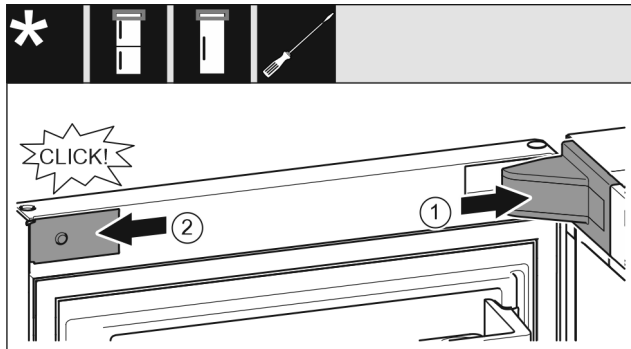

Fig. 24
- ▶ Position the swap bearing block cover Fig. 24 (1) and snap it in. You may need to push it carefully apart.
- ▶ Attach the panel Fig. 24 (2) from the side and snap it on.